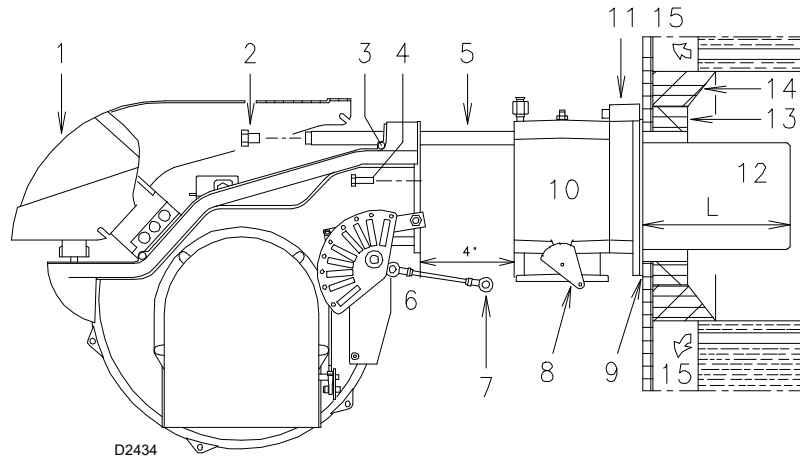
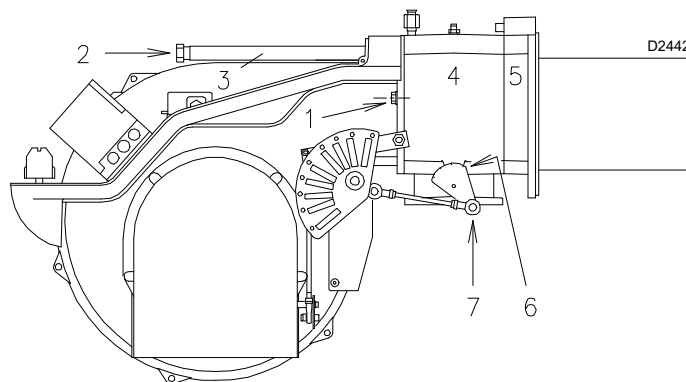

Fig. 8
Fig. 12
- For boilers with front flue passes 15)(Fig. 8) or flame inversion chambers, protective insulation material 13), must be inserted between the boiler refractory 14) and the blast tube 12).
Detach the combustion head from the burner (Fig. 8):
- refit the burner to the slide bars 3)(Fig. 12) at approximately 4" from the sleeve 4) - burner positioned as shown in Fig. 8, page 15 - insert the flame rod cable and the ignition electrode cable and then slide the burner up to the sleeve so that it is positioned as shown in Fig. 12;